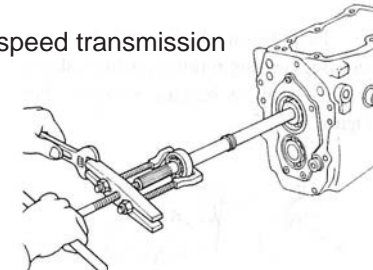

Fig.TM-24 Removing main shaft rear bearing
1.Remove main shaft rear bearing, using universal puller, and then take out spacer. See Figure TM-24.